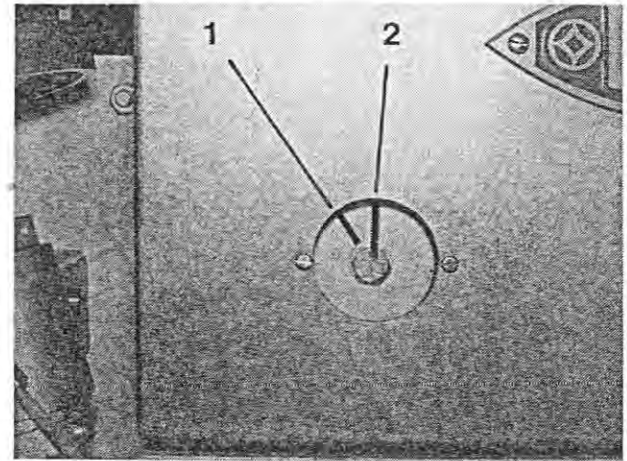

Fig. 191
1. Vent the brake on the operator desk and use the handwheel to crank the machine in the direction of the arrow until the marks (Figure 191/1+2) are aligned.